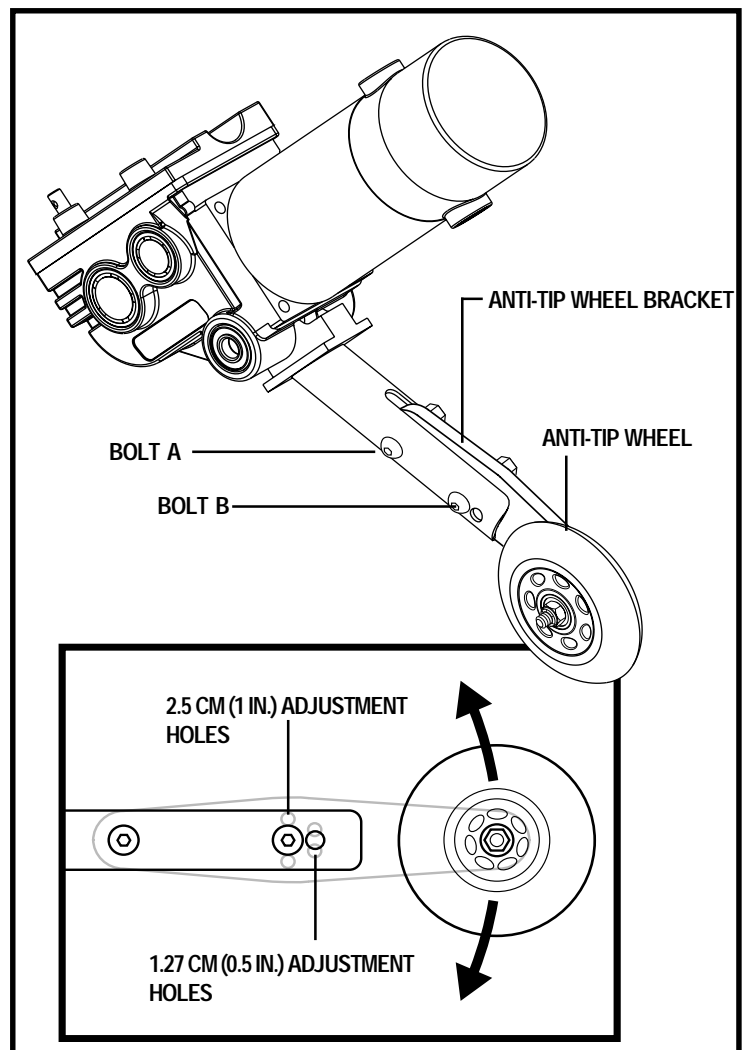

Figure 19. Anti-Tip Wheel Assembly
1. Loosen bolt A. See figure 19.
3. Raise or lower the anti-tip wheel by 1.27 cm (0.5 in.) or 2.5 cm (1 in.) increments by aligning the appropriate adjustment holes. See figure 19.